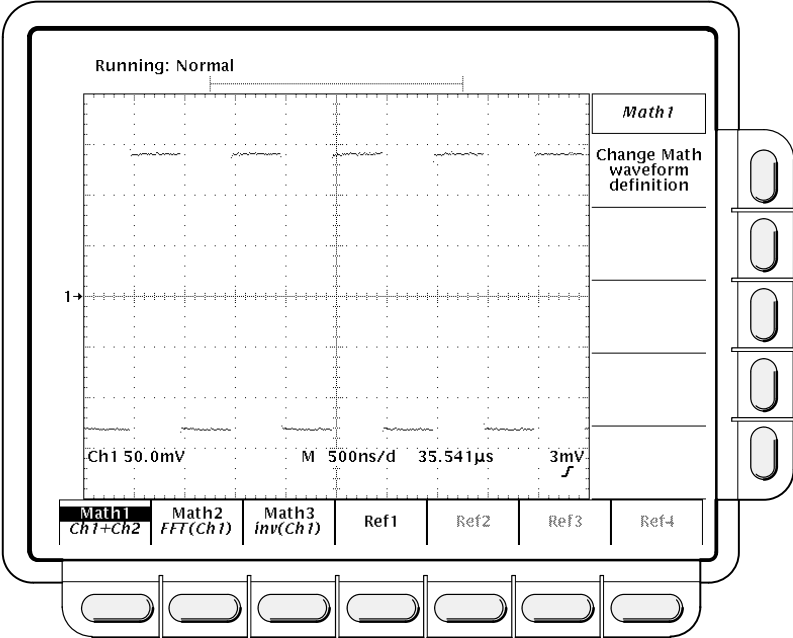

Figure 3-53: More Menu
*In Figure 3-53, the main menu items **Ref2**, **Ref3**, and **Ref4** appear shaded while **Ref1** does not. References that are empty appear shaded in the More main menu.*